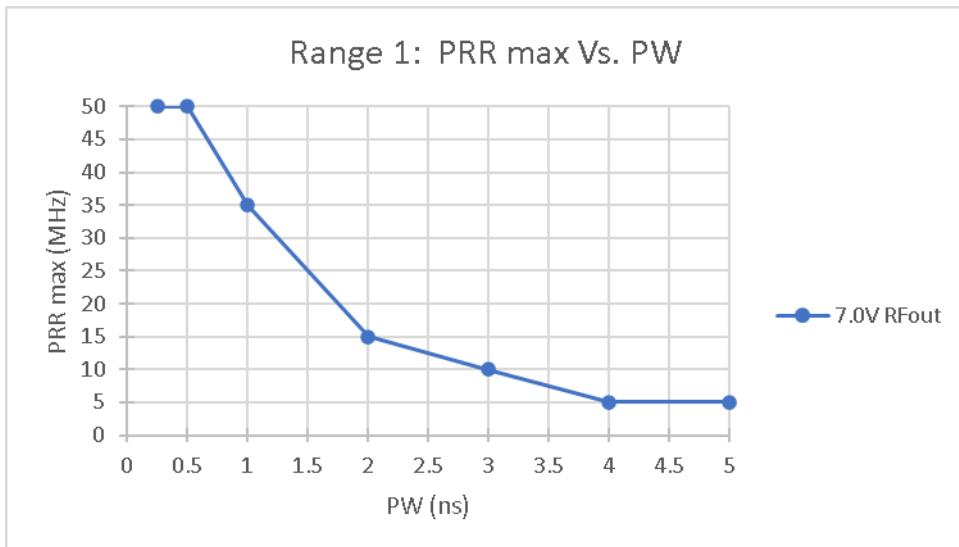
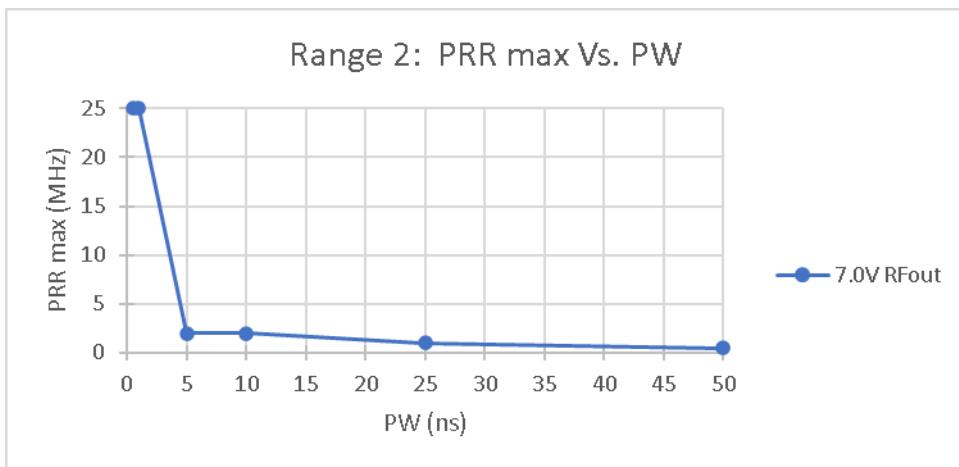
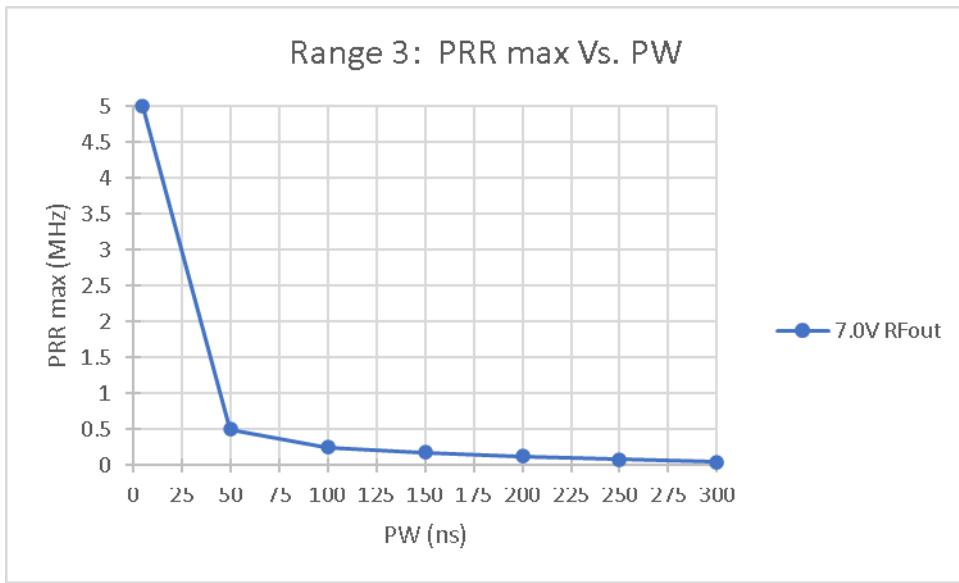

Figure 3: Range 1 maximum pulse repetition rate vs. pulse width
Figure 4: Range 2 maximum pulse repetition rate vs. pulse width
Figure 5: Range 3 maximum pulse repetition rate vs. pulse width
Typically, the T130 duty limit is around 2.5%, depending on the selected range and pulse width. Table 1 lists pulse repetition rate (PRR) limits at the limits for each RANGE. Figure 3, Figure 4, and Figure 5 are charts associating maximum pulse repetition rate (PRR) as a function of output pulse width (PW) at maximum amplitude.